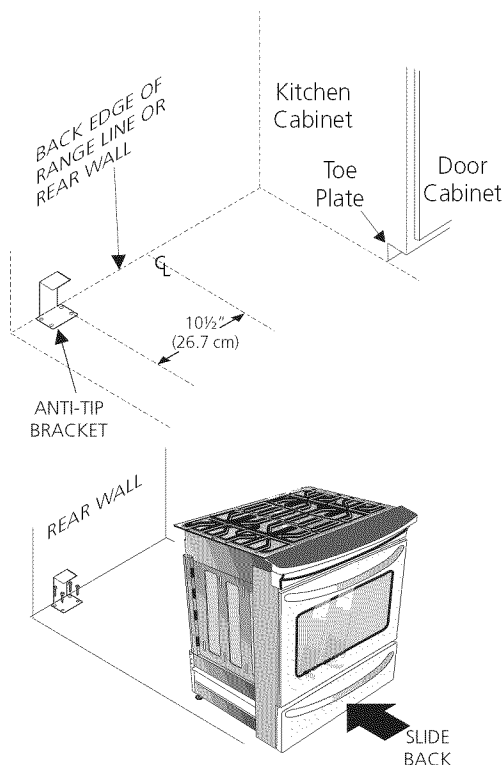

Figure 14
1. Draw a center line (CL) on the floor where the range should be installed. Also draw a line on the floor at the range back position if there is no wall.
2. Unfold paper template and place it flat on the floor with the right rear corner positioned exactly on the intersection of the center and back lines you just drew before. (Use the diagram below to locate brackets if template is not available (Figure 14)).